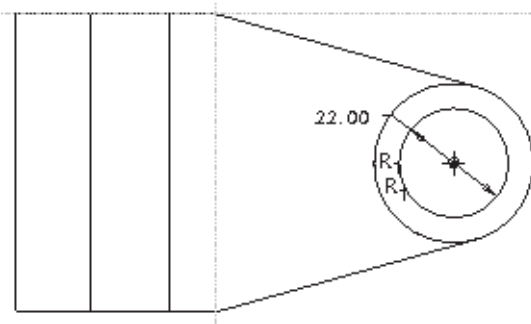

Figure 5-100 Sketch with dimensions and constraints
1. Draw the sketch using various sketcher tools and add the required constraints and dimensions to it, as shown in Figure 5-100.